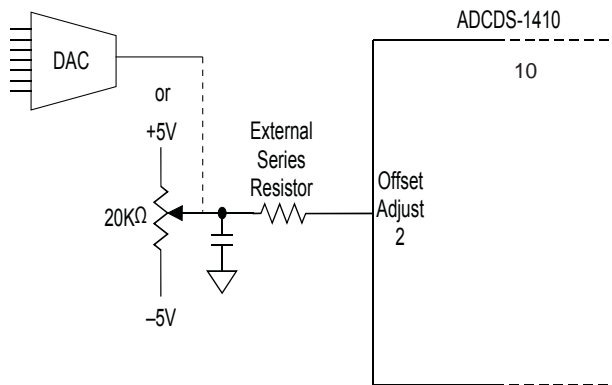
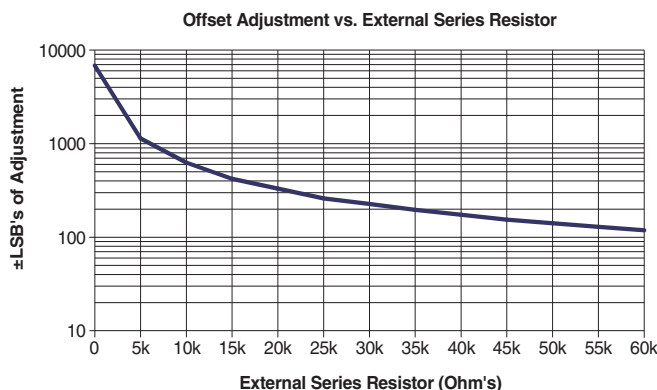

Figure 3. Offset Adjustment Circuit
Figure 6. Offset Adjustment vs. External Series Resistor
- If using the suggested offset and gain adjust circuits (Figure 3 & 5), place them as close to the ADCDS-1410's package as possible.
Manual offset adjustment for the ADCDS-1410 can be accomplished using the adjustment circuit shown in Figure 3. A software controlled D/A converter can be substituted for the 20K Ω potentiometer. The offset adjustment feature allows the user to adjust the Offset/Dark Current level of the ADCDS-1410 until the output bits are 00 0000 0000 0000 and the LSB flickers between 0 and 1. Offset adjust should be performed before gain adjust to avoid interaction. The ADCDS-1410's offset adjustment is dependent on the value of the external series resistor used in the offset adjust circuit (Figure 3). The Offset Adjustment graph (Figure 6) illustrates the typical relationship between the external series resistor value and its offset adjustment capability utilizing $\pm 5V$ supplies.